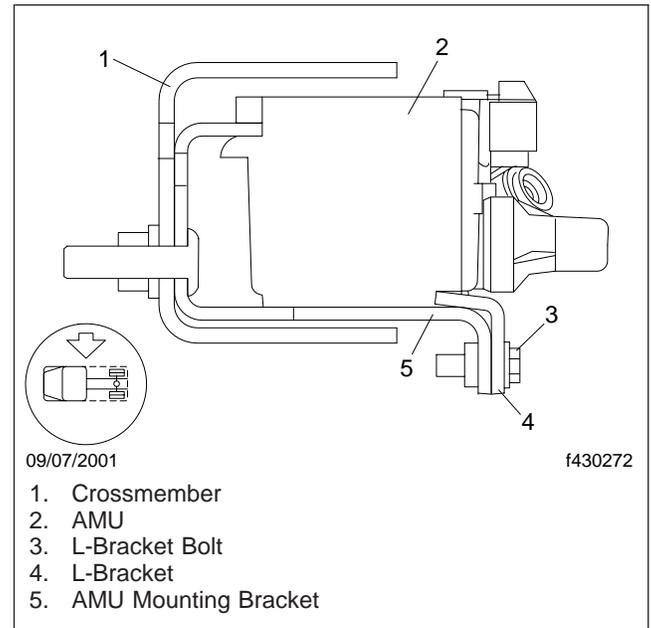

**Fig. 1, Pressure Switch Module "A"**
**NOTE:** Pressure Switch "A" (**Fig. 1**) is equipped with a shut-off valve that will stop air from flowing to the modules to the left of the switch. This valve can be used to shut off air to the modules.